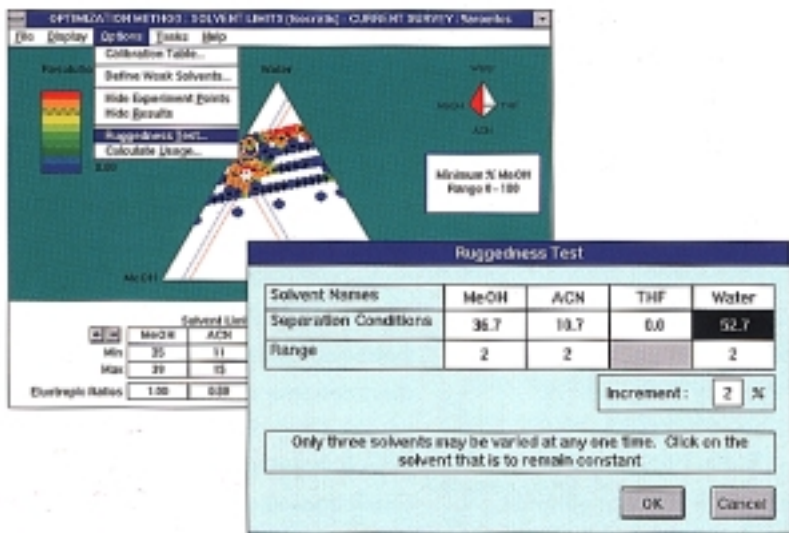

Figure 8. Robustness testing is performed via TMD's "Ruggedness Test", which builds additional experiments to evaluate how small changes impact the separation.
**Fully automated robustness testing.** Now that a viable survey region has been located (50% H2O, 40% MeOH, 10% ACN), the sensitivity of the separation to small mobile phase changes must be determined. Method robustness testing is required in the pharmaceutical industry and in other regulated HPLC laboratories. In Turbo Method Development it’s referred to as a “ruggedness test”. The test can be designed around any survey point (actual or simulated) and the range of the test and the number of experiments can be set in accordance with the intended usage of the method. In the nine-aromatic example we have executed a “ruggedness test” around the located survey optimum (Figure 8). Because the optimum was found in a region defined by simulated data, we will both confirm the simulations and test for robustness in the same experiment. “Ruggedness tests” and all additional survey injections become integrated into the survey, and all survey data are reevaluated after the new data have been processed.